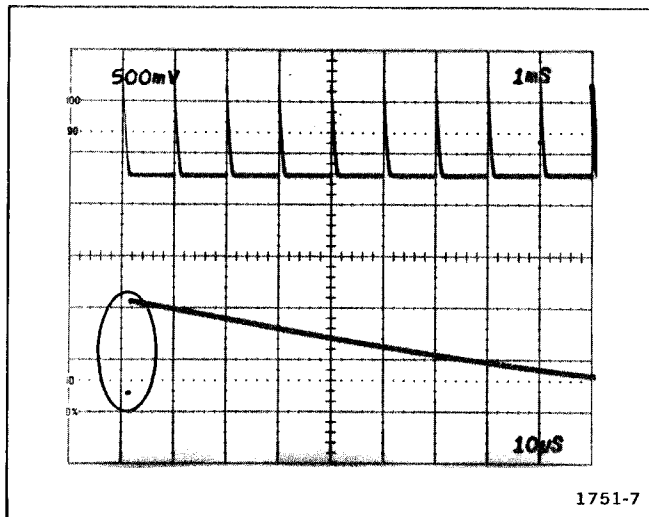

Fig. 5-13. Correct DTM Scale and Delay Start adjustment (circle).
- c. Position the first time-mark to the second vertical graticule line, using the POSITION control. See Fig. 5-13 for reference.
- d. Adjust—DTM Scale, R495, to start rising portion of tenth time-mark so Delayed (bottom) sweep display coincides with second vertical graticule line. See Fig. 5-13 for reference.
- f. Adjust—Delay Start, R425, to start rising portion of second time-mark so Delayed (bottom) sweep display coincides with second vertical graticule line. See Fig. 5-13 for reference.